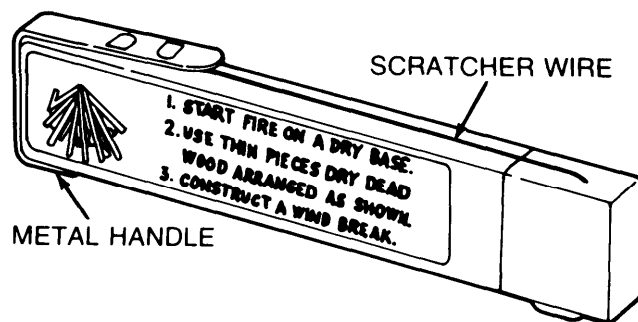

Figure 2-3. M2 Fire Starter.
d. *Fire Starters.* M2 fire starters (fig 2-3) can be used to ignite combustible trains leading to piles of combustible materials surrounding equipment to be burned. Fire starters can also be placed on the piles and remotely fired as follows:
- (1) Trail lanyard for each fire starter from upwind position at least 10 meters (11 yards) along ground to pile.
- (2) Slip metal handle off end of fire starter, but do not pull scratcher wire.